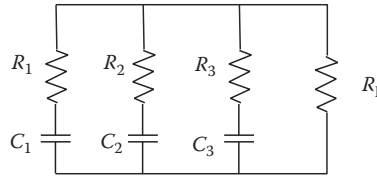

FIGURE 5.34 Supercapacitor bank.
- 5.5. Figure 5.34 illustrates a model for one cell of an ultracapacitor or supercapacitor. A module of the “ultracap” is made of N identical cells. For energy storage applications, it is of interest to know how quickly the supercap charges and discharges. $R_l = 1\text{ K}\Omega$ is leakage. Assume $R_1 = 500\text{ }\mu\Omega$, $C_1 = 3\text{ kF}$, $R_2 = 1\text{ }\Omega$, $C_2 = 0.3\text{ kF}$, $R_3 = 3\text{ }\Omega$, $C_3 = 0.6\text{ kF}$. Calculate the time constant τ of each one of the three RC branches. Which one is the slow τ branch? Which one is the medium τ branch? Which one is the fast τ branch? Assuming the cell is fully charged to 12 V, what amount of energy is stored in one cell? Assuming $N = 10$ cells in a module, how much energy is stored in a module if all cells are fully charged? **Ignore leakage resistance**